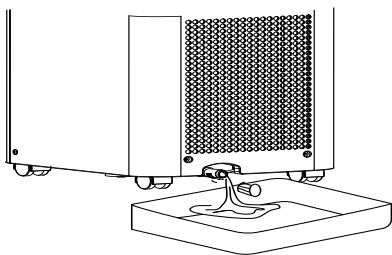

Fig.1
- Before storage, be sure to pull out the water outlet drain underside (#9), and allow the water to drain out in a basin. (fig. 1) Run the unit in fan mode only for a few hours to dry any moisture on the internal cold exchangers to prevent mold.